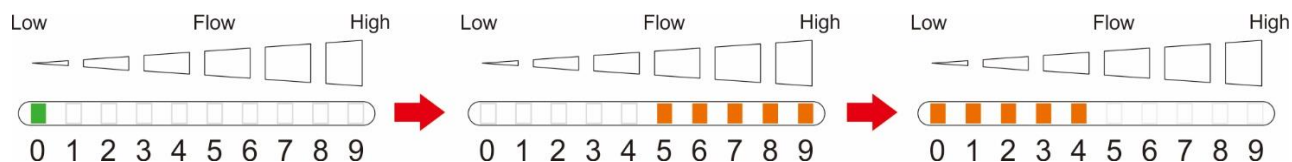

Figure 14
(1) Normally closed contact (NC) switches to normally open contact (NO):
Press and hold the left arrow key ◀ for about 1 second and the LED 0 lights up. Keep pressing and holding the left arrow key ◀ for about 5 seconds and the LED 0 flashes. After it keeps flashing for about 5 seconds, the LED 5~9 light up in orange simultaneously. After lighting up for 5 seconds, they switch to the LED 0~4 lighting up in orange at the same time. The LEDs flash thrice simultaneously and the normally closed contact (NC) switches to the normally open contact (NO) right away. Release the button (Figure 14).